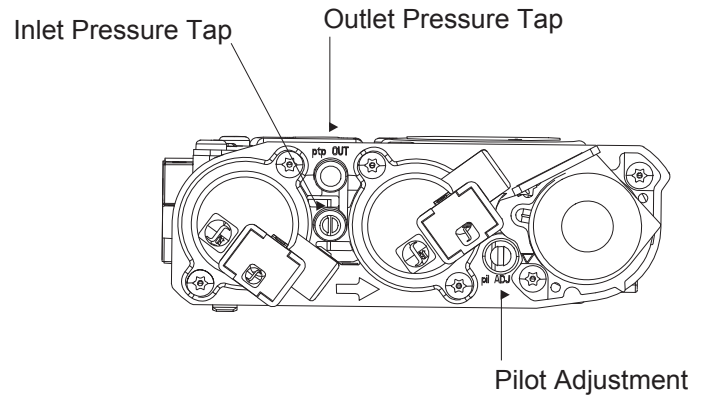

Figure 14 - Gas Pressure Check at Gas Valve
4. To check gas pressures at valve, turn captured screw counter clockwise 2 or 3 turns and then place tubing to pressure gauge over test point. Turn unit to high. See *Figure 14*. After taking pressure reading, be sure and turn captured screw clockwise firmly to reseal. Do not over torque. Check test points for gas leaks.